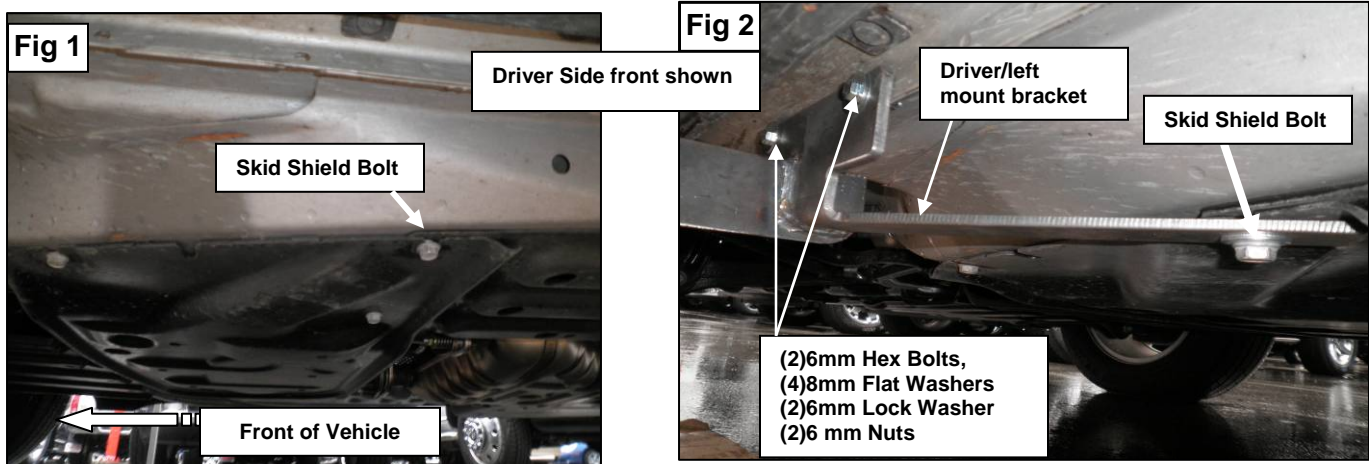

Fig 3
3. Locate and remove the rear skid shield bolt as seen in **(Fig 3)**. With bolt removed install the Driver/left side bracket as seen in **(Fig 4)** to the bottom of the rocker panel drip rail with the (2) 6mm hex bolts, (4) 8mm flat washers, (2) 6mm lock washers and (2) 6mm Nuts re-attach skid shield bolt. Snug but do not tighten at this time.
4. Position Driver/left Side Bar onto Mounting Brackets. Attach Side Bar to Mounting Brackets using the included (4) 10mm x 30mm Hex Head Bolts, (4) 10mm Lock Washers, and (4) 10mm Flat Washers. Level and adjust Side Bar, then tighten all hardware at this time.